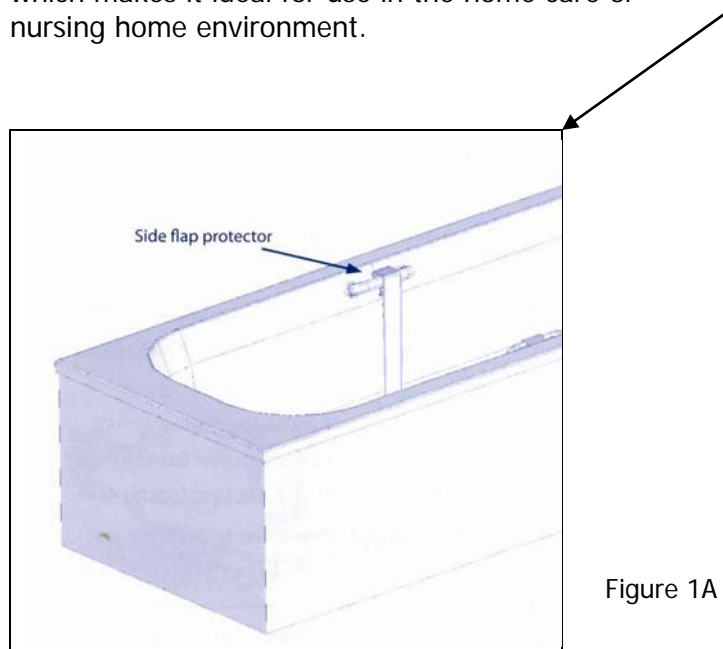

Figure 1A
- If appropriate, install side flap protectors (see Figure 1A on page 1)